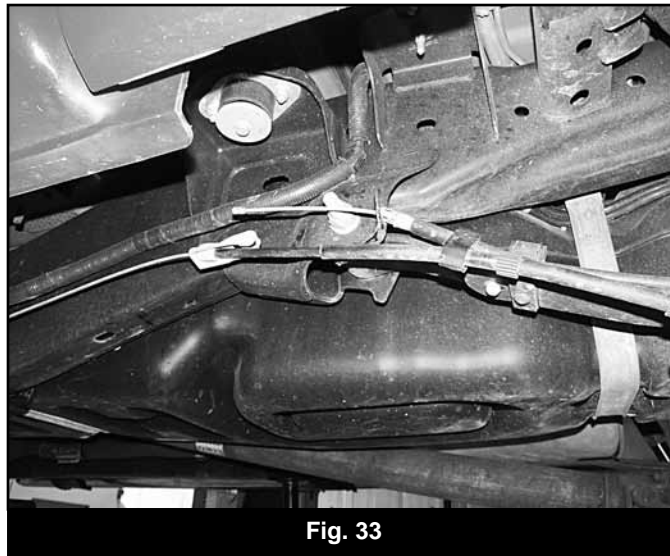

Fig. 33
79. Remove the driver's side parking brake cable from the junction bracket (Fig 33).